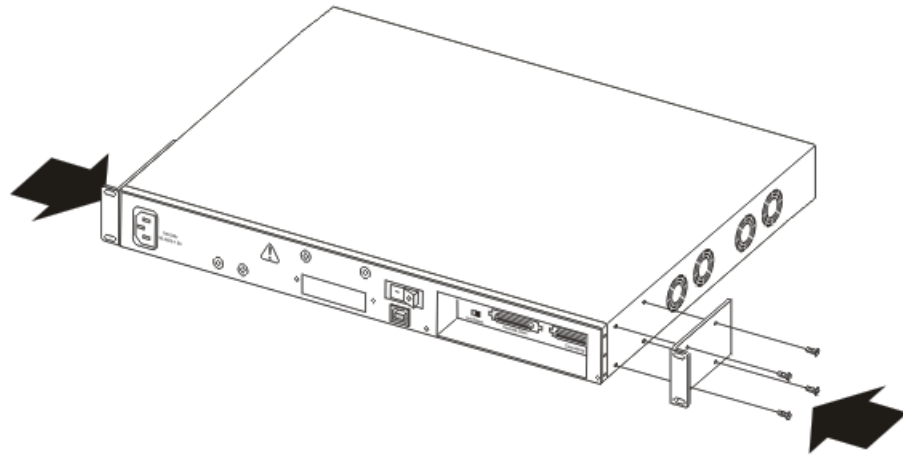

Figure 15: Attaching rear mounted switch brackets
1. Attach a bracket to each side of the switch using a #2 Phillips screwdriver as shown in Figure 15: Attaching rear mounted switch brackets on page 69. The bracket